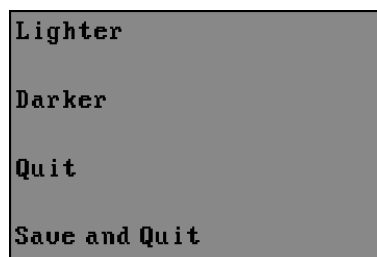

Figure 72: Contrast Adjustment Menu
3. Contrast adjustment menu will appear after the initial monitor warm-up (as shown in Figure 72: Contrast Adjustment Menu).